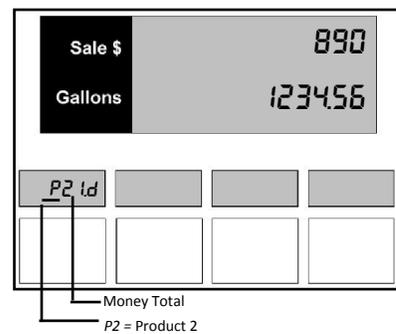

Figure 26.2 – Product 2 Money Total
2. To read the money totals for Product 2 press the **Enter** button. The PPV display reads P2 1.d for Product 2, Money Total as shown in *Figure 26.2*.